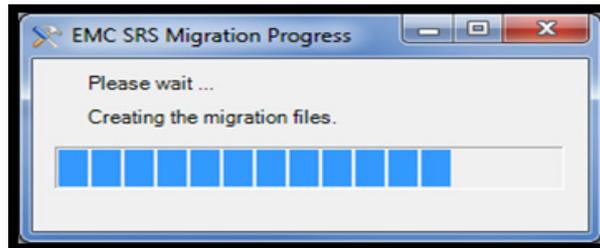

Figure 102 Dell EMC SRS Migration Progress Bar
4. Click **Next**. Once the migration process starts, a progress bar indicates the status of the migration, as shown in Figure 102 on page 92.